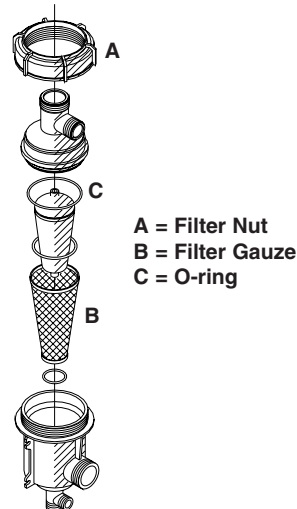

Fig 17
- 1 Unscrew the filter nut (**A** Fig 17) and open the filter.
- 2 Check the filter gauze (**B** Fig 17). Clean and check there are no residues on any part of the filter hoses.
- 3 Lubricate the O-ring (**C** Fig 17).